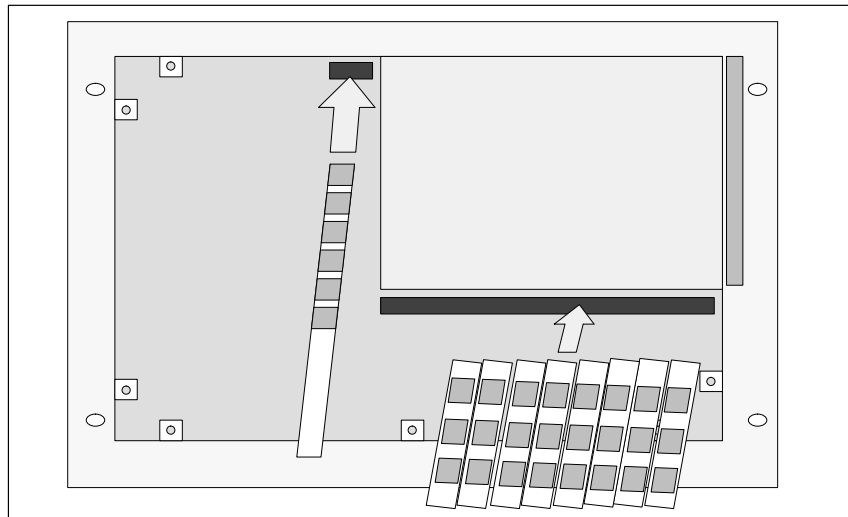

Figure 2-6 Inserting the labelling strips
6. Insert the labelling strips through the slots provided (see Figure 2-6).